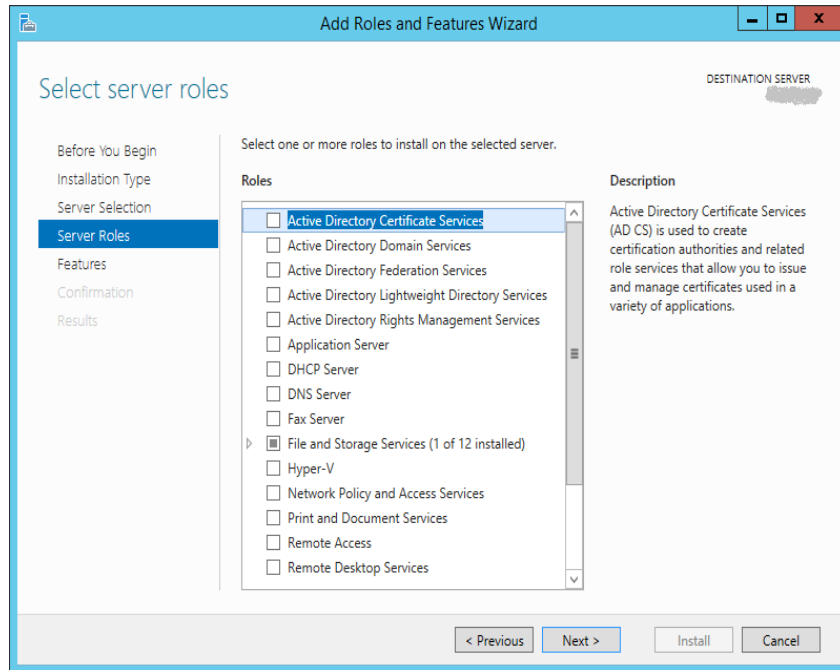

Figure 5. Server Roles section of Add Roles and Feature wizard
5. Click **Next**. The wizard displays the Server Roles section (shown in Figure 5).